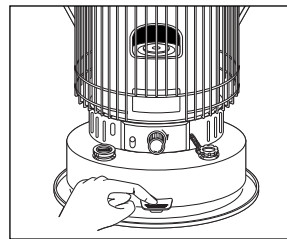

Fig.13
- Push the ignition lever (Fig.13) to bring the glowing igniter into contact with the wick.